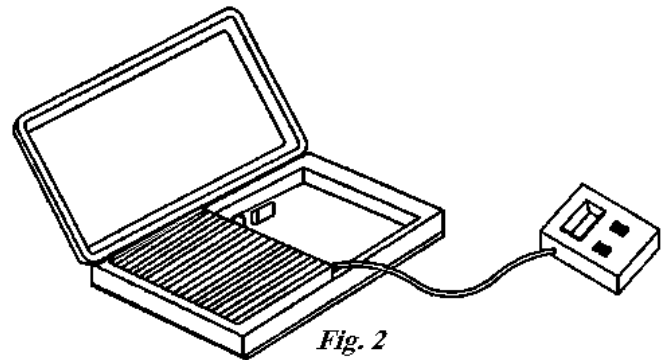

Fig. 2
**Charging Scale** – An electronic or computerized charting scale measures the amount of liquid refrigerant charge that is dispensed into a sealed system. (Fig. 2)